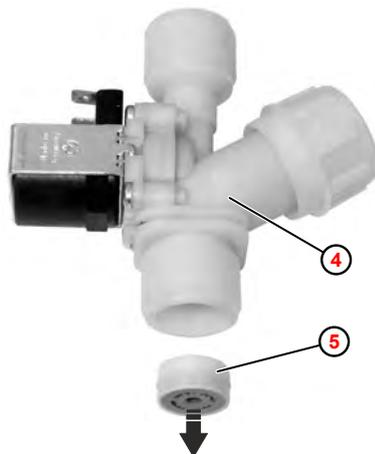

Fig. 19: Removing the quantity regulator
- ④ Solenoid valve
- ⑤ Flow regulator
4. ➤ If necessary, remove the quantity regulator ⑤ from the solenoid valve ④ using a suitable tool (e.g. scriber). This destroys the quantity regulator.
5.  **Fit a new** quantity regulator, making sure that it is in the correct position (Fig. 19).